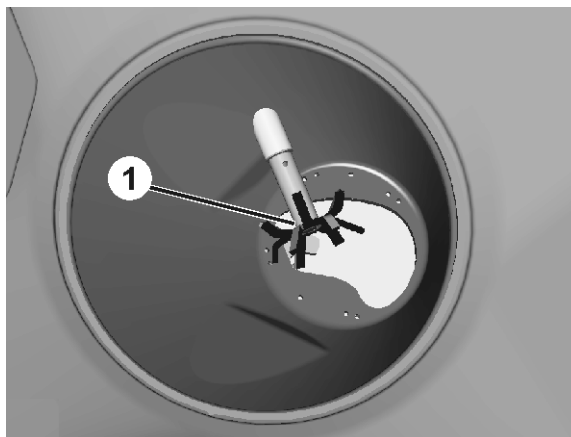

Fig. 15
In this case, dosing sliders (Fig. 15/2) operated by setting motors (Fig. 15/1) release a range of different diameters at the outlet openings (Fig. 15/3).
- Manually** using the setting lever (Fig. 15/3) by adjusting different opening widths of the outlet opening (Fig. 15/2). The required shutter position in each case is determined either according to the setting chart or using the sliding ruler.
The metering shutter is actuated hydraulically to open and close the outlet opening (Fig. 15/4).